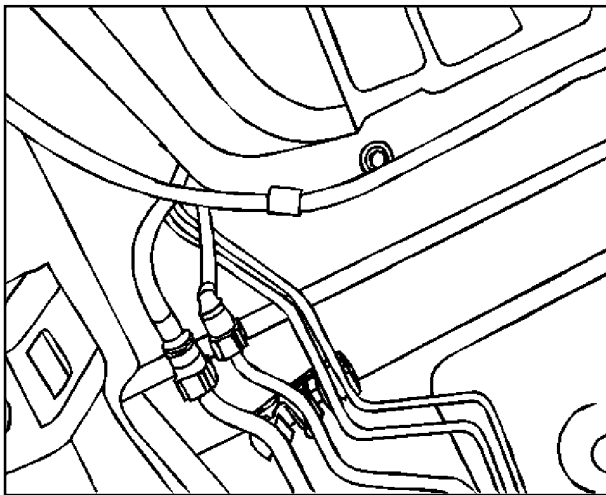

Fig. 5
- Check all the lines for leaks related to the systems like fuel, oil, coolant, vacuum, exhaust and brakes after servicing (Fig. 5).